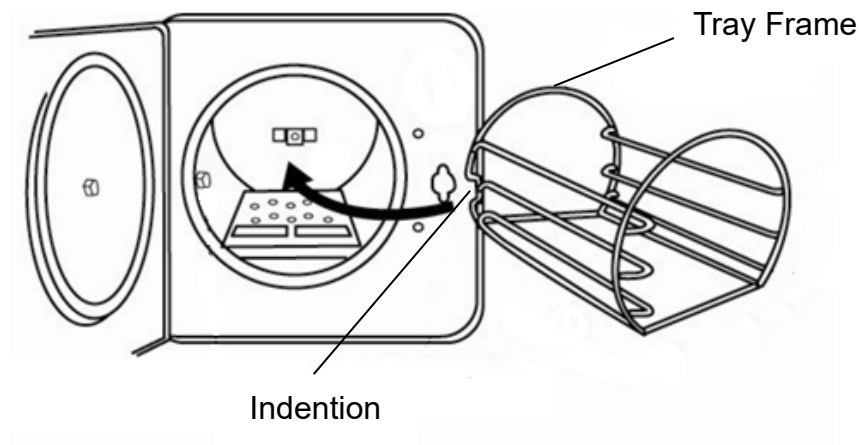

Figure 30 – Tray Frame
D. Install the tray frame as Figure 30. (optional accessory)
⚠ Caution: The frame should be installed as Figure 30 – Tray Frame below. The indentation of the frame will pass the bushing in the chamber.